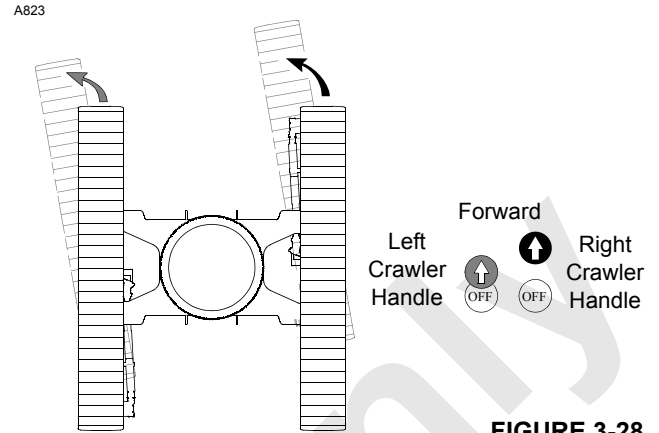
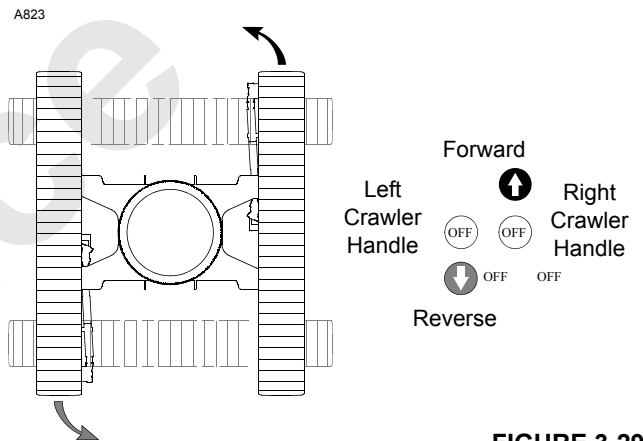

FIGURE 3-28
FIGURE 3-29
- Make gradual turns (Figure 3-28) or counter-rotate (Figure 3-29) whenever possible so both crawlers are always powered
- 12. To make a GRADUAL LEFT TURN (Figure 3-28), move both crawler handles to front from off, but move right crawler handle farther to front than left crawler handle; right crawler will turn faster than left crawler.
- 14. To COUNTER-ROTATE LEFT (Figure 3-29), move right crawler handle to front from off and move left crawler handle to rear from off.